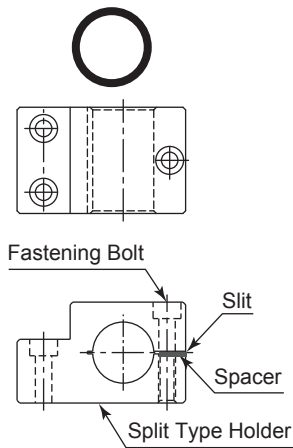
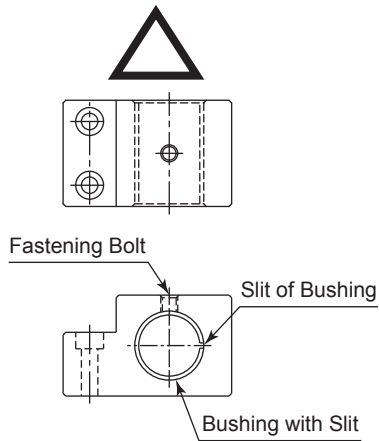

Fig. 36
Fig. 37
- ② When installing a motor spindle to the holder, recommended installation method is shown Fig 36. Refer to "③ How to fabricate the Split Type Holder ". If this is not possible, install as shown in Fig. 37 using the Controllers X10mA function to avoid crushing the motor spindle.